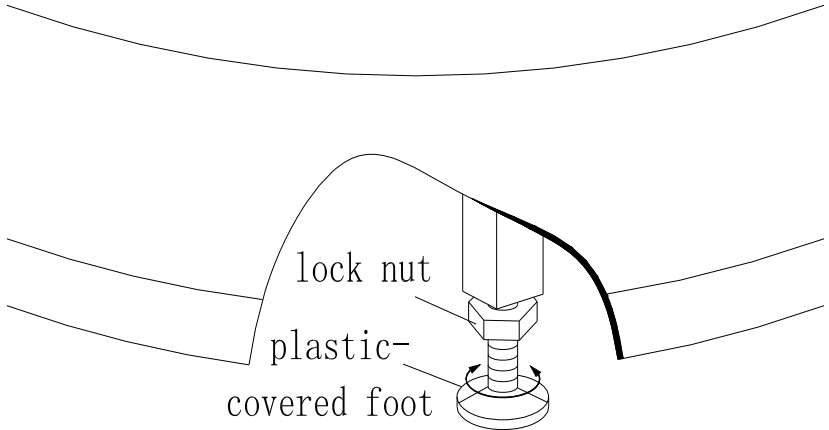

Fig. 2
1、 Adjust plastic-covered foot -----move the basin to a suitable position, adjust the plastic-covered foot at the bottom, make it contact the ground. As fig.2.